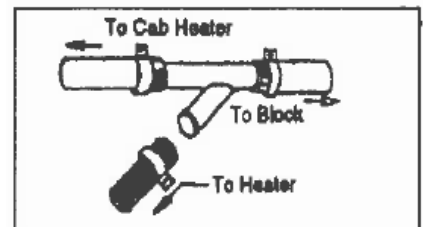

Figure 9 – Y-Fitting
- Outlet** (top connection) - Near the engine block, cut heater hose from passenger compartment heater to engine block inlet, slip on hose clamps and insert Y-fitting as per Figure 9. Connect the heater outlet lube to the remaining opening on the Y-fitting then tighten hose clamp.